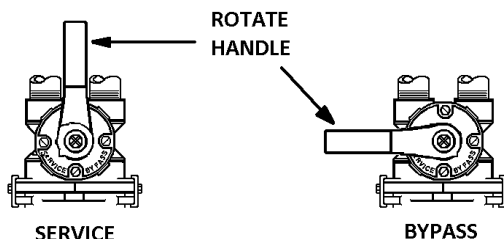

FIGURE 3: Stainless Steel Bypass Valve
STEP 7: Place bypass in the "Bypass" position (refer to Figure 3 below). Open main supply valve or turn on power to pump on private well systems.
- STEP 9:** Refer to Figure 3 (page 5) for appropriate bypass valve operation. Rotate bypass lever of stainless steel bypass $\frac{1}{4}$ of the way to Service allowing unit to fill slowly. Filling the media tank in this position will force any trapped air and carbon dust to the drain. Leave the unit in bypass until the air is purged and only water runs to the drain.